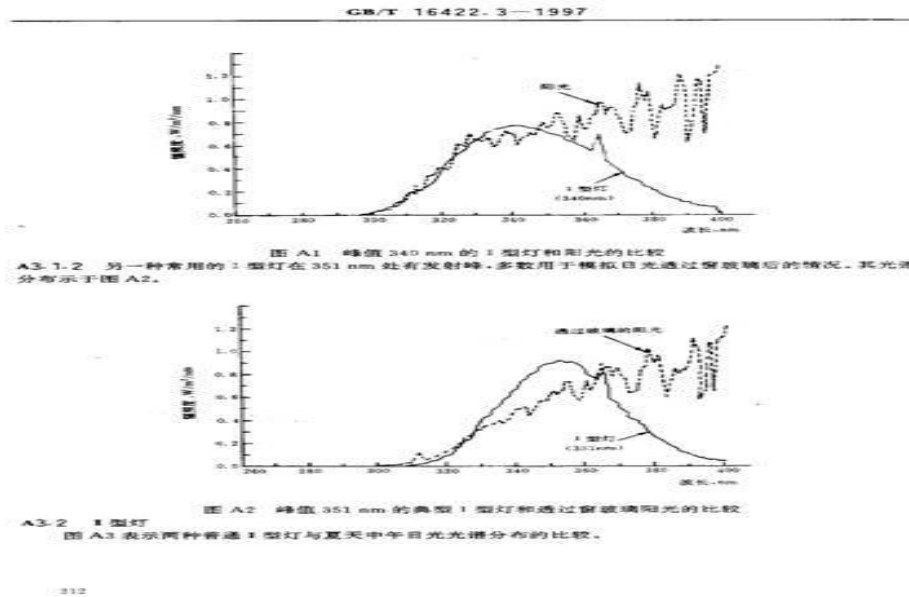

Figure 2
3. Spectral distribution chart: ----- (see Figure 2)